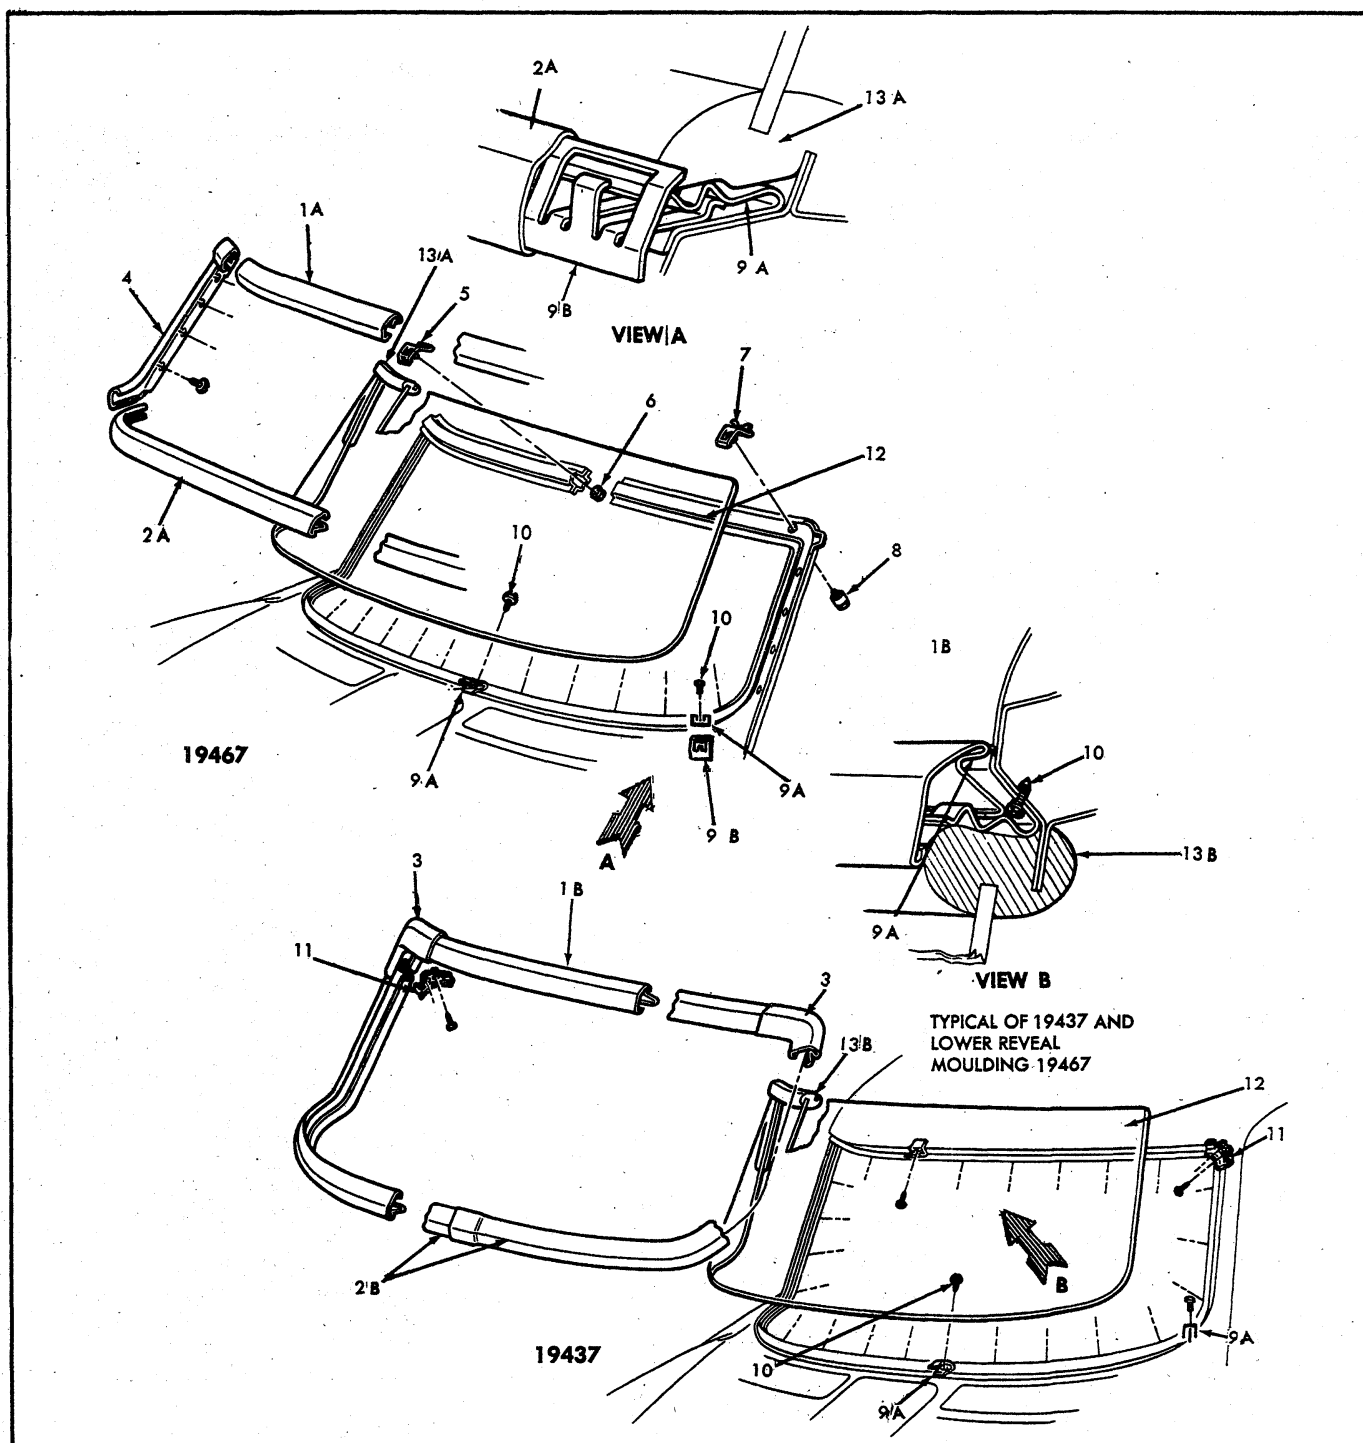

Fig. 12—Windshield Glass and Reveal Moldings
Consult Figure 12 for parts identification.
2. Install new molding clips (Item 9, fig. 12). Both models use 13 type B clips equally spaced on lower frame section. 37 Models use 11 type A clips equally spaced on the top frame section.
9. Install lower reveal molding, aligning it with mark made upon disassembly. Refer to Figure 12, View A, before attempting installation; note that flange of molding and clips (item 9) at ends of molding must pass between molding retaining clips and windshield frame. If difficulty is met in engaging molding flange with retaining clips, a piece of shim stock may be used as a "shoe horn" to place flange behind clips.